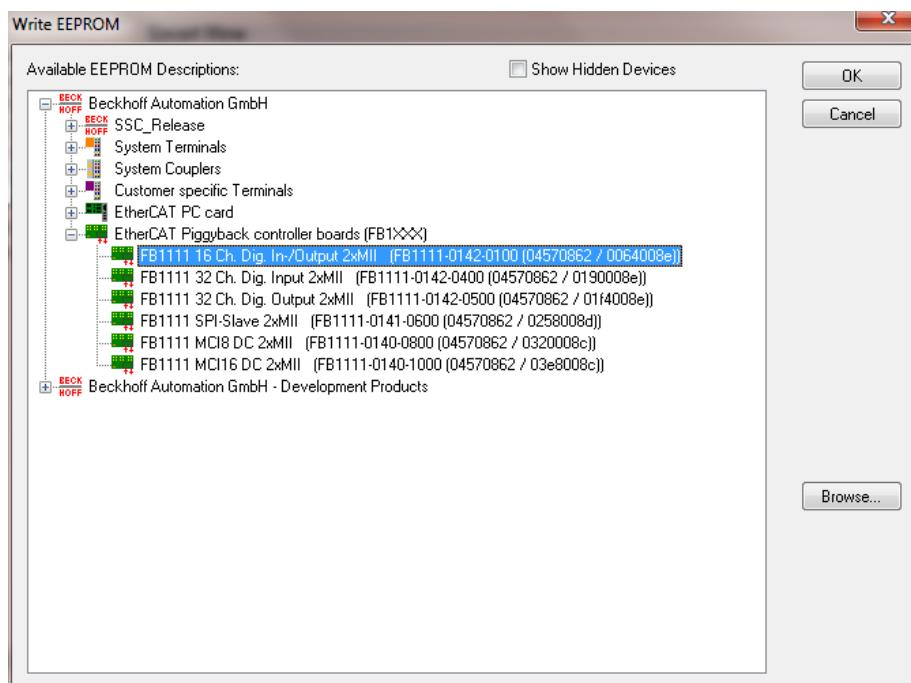

Figure 2: 16Bit Digital I/O Device Description
- f. Write the Device Description for 16 Bit Digital I/O to the EEPROM (Figure 2: 16Bit Digital I/O Device Description). How to write the EEPROM is described in the EtherCAT Knowledgebase www.ethercat.org/KB.